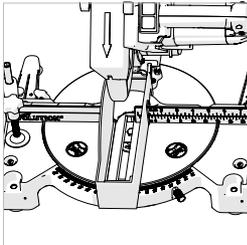

Fig. 16
- Position the Auxiliary Lower Blade Guard on the Rotary Table over the table insert and straddling the Fence. (Fig. 16)